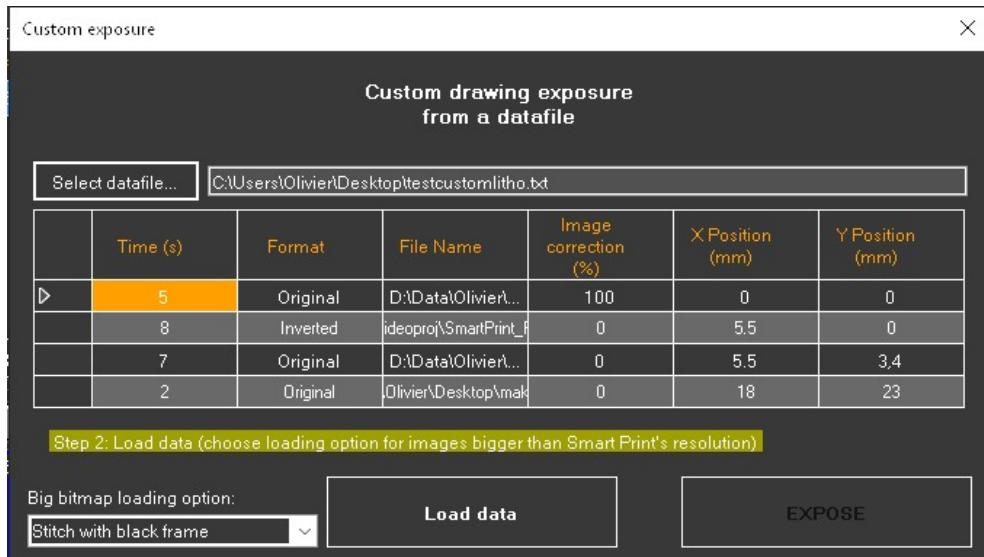

Figure 39 – Custom exposure: parameter file loaded
- If the parameter file contains no mistakes (drawing not found, unknown characters, etc.), the file will load on the window (Figure 39)